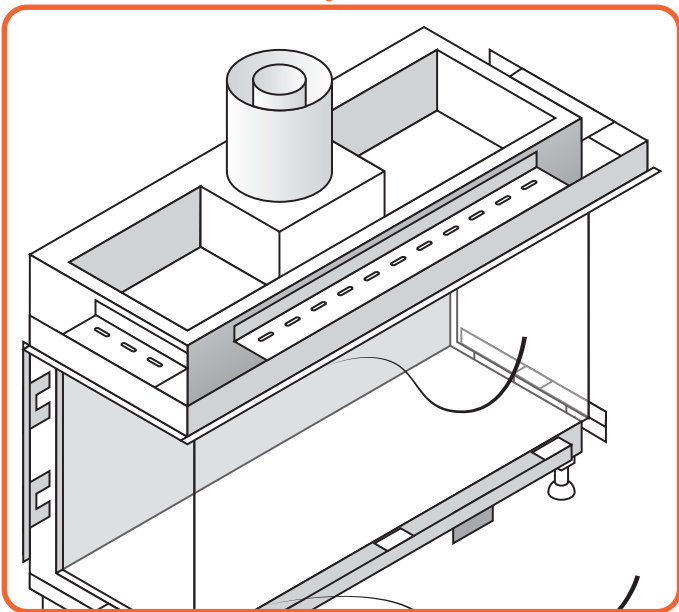

Figure 9.6 | Remove glass rope
- Remove the ropes holding the glass (See Figure 9.6)